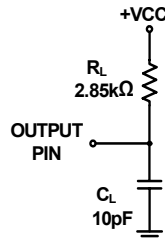

FIGURE 4. EQUIVALENT LOAD CIRCUIT
10. During characterization, t_{DIS} is measured from the release point with a 10pF load (see Figure 4) and the equivalent timing using the ADS7817 loading (3kΩ, 100pF) is calculated.